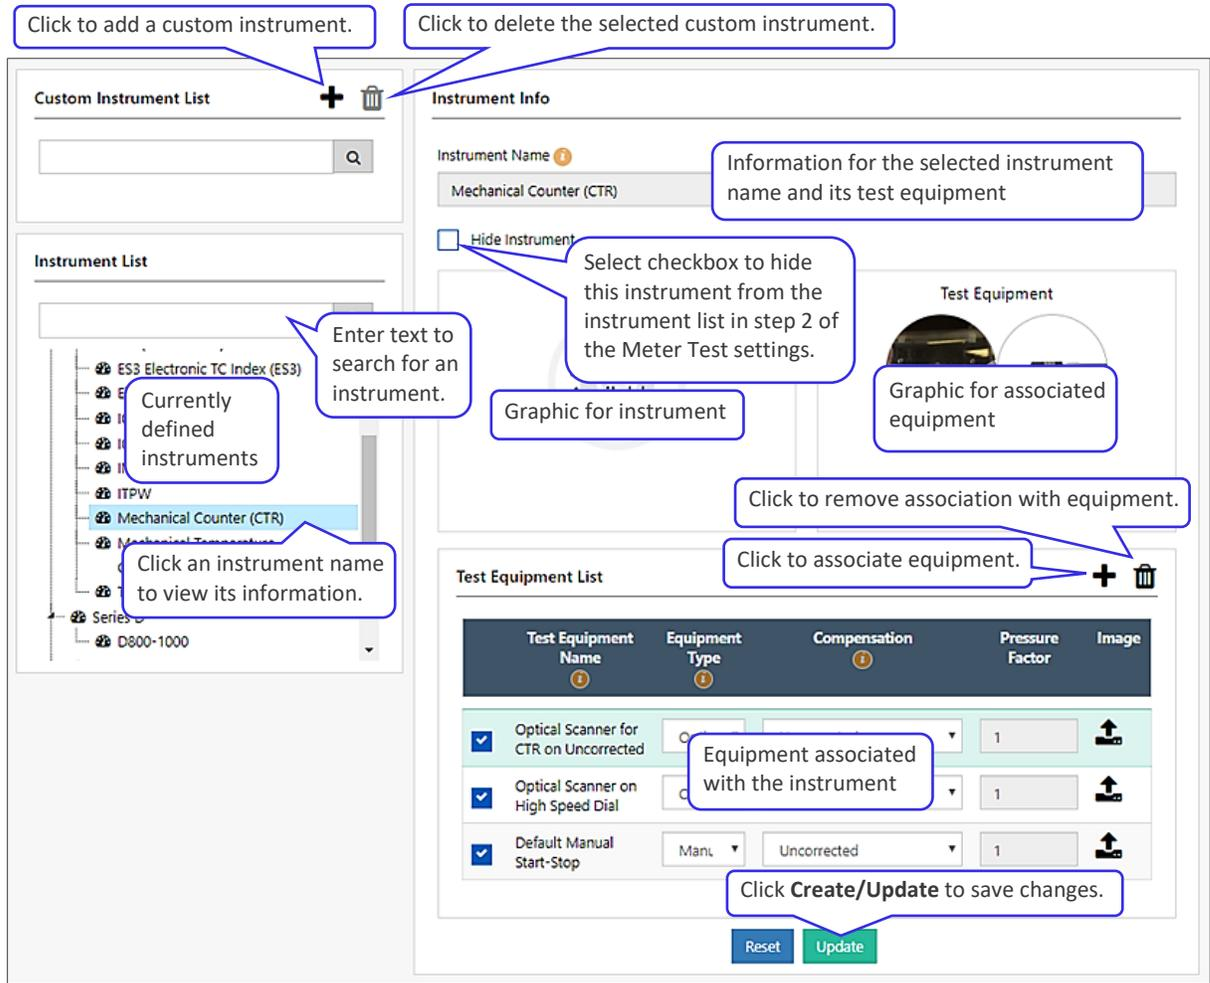

Figure 64: Instrument Configuration screen
The Instrument Configuration screen displays (Figure 64) and has the following sections:
To create an instrument, perform the following steps in the Instrument Configuration screen (Figure 64):
1. In the Instrument Configuration screen, click the instrument to modify in one of the instrument lists (Figure 64), and make the needed changes. For more information, refer to step 4 through step 7 in Section 11.2.1.